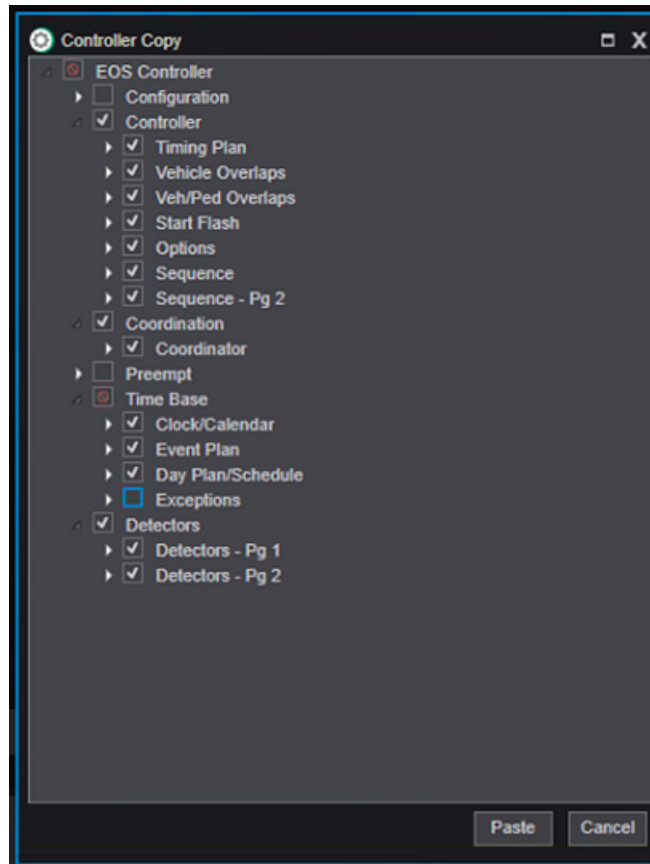

Figure 79: The Controller Copy window where different sections of the database can be selected to be copied.
5. Select the parameters to paste from Controller A. See Figure 79 for an example. A  symbol is used to show partial settings are selected in a category.